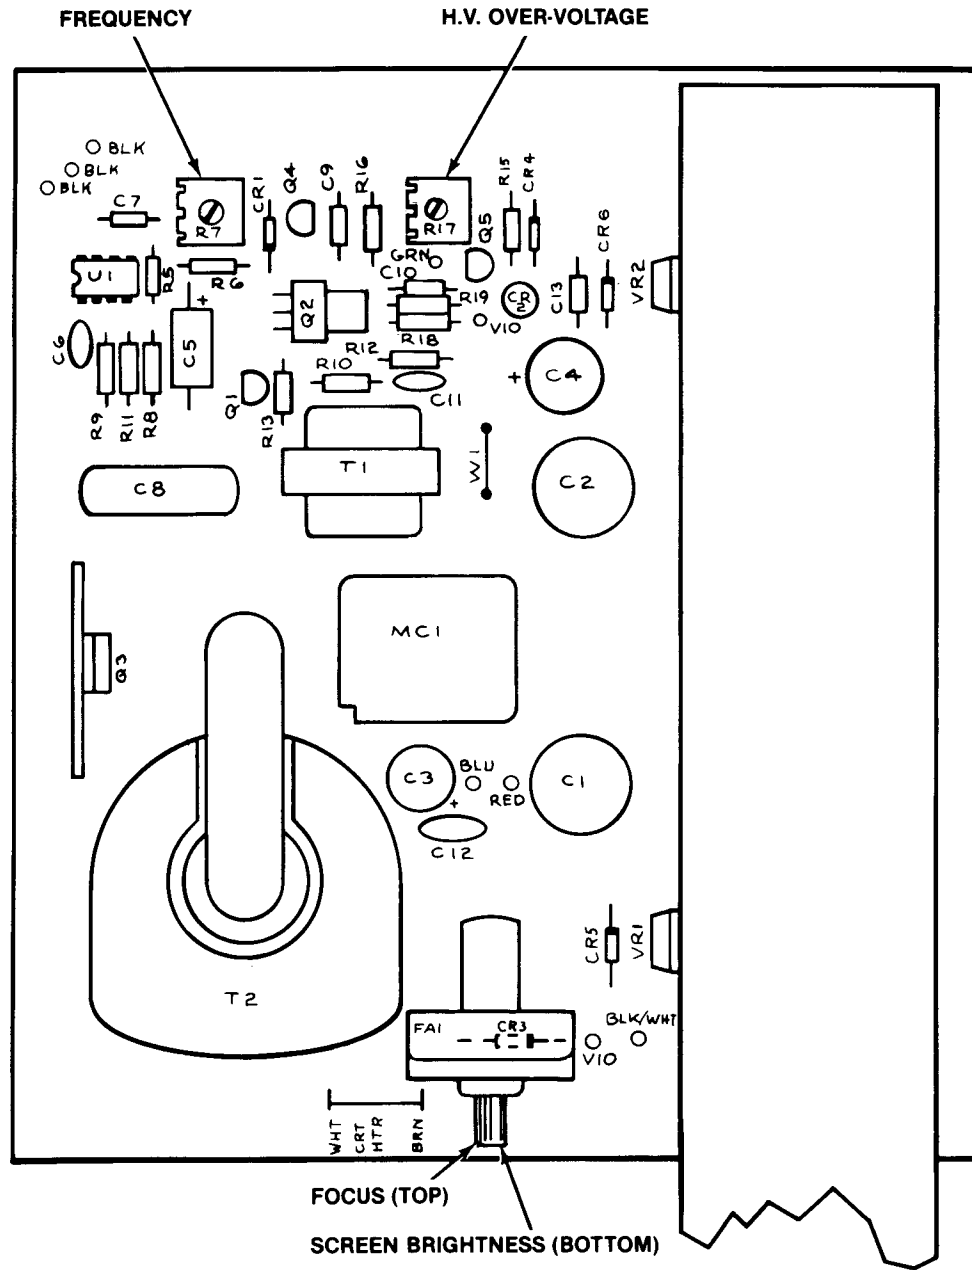

Figure 2 Adjustable Controls on the High-Voltage PCB
Adjust the FOCUS control if the screen image is not sharply defined. Figure 2 shows the location of the FOCUS control above the high-voltage transformer. Turn this control until you get optimum screen sharpness. This is the only control not preset by the factory.
The BRIGHTNESS control is set at the factory and then sealed. Do not adjust the BRIGHTNESS control unless you replace the cathode-ray tube. Figure 2 shows the location of the BRIGHTNESS control above the high-voltage transformer. To adjust:
5. Rotate HV OVER-VOLTAGE R17 to its fully counterclockwise position. Figure 2 shows the location of the HV OVER-VOLTAGE and FREQUENCY controls.